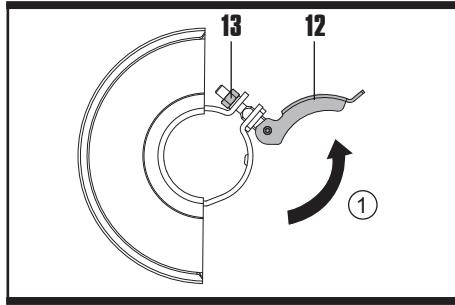

Fig.D1
12. Guard clamping lever (See Fig. D1)
13. Clamp adjustment screw (See Fig. D1)